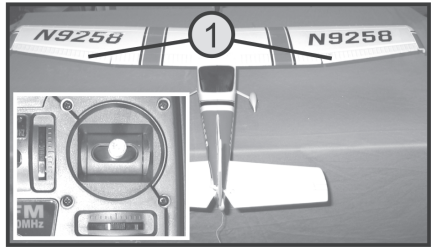

Figure 18a
- The trim lever for the aileron function (see figure 2, pos. 5) has to be in centre position. If the linkage rods are adjusted correctly, the ailerons (1) and the wing are in line (see figure 18a).